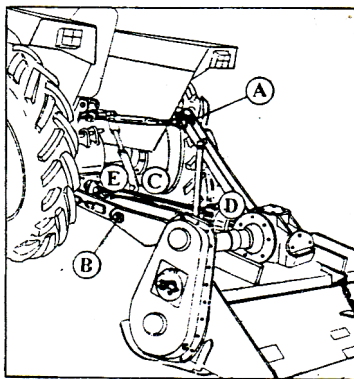

Figure 4. The process of aggregating small particles.
Fasten the upper tractor lever - topling to the support of the upper point on the rotary tiller (figure 4, item A).
3. Attach the left lower tractor lever (and also the stabilizer lever, if you use it) to the left sleeve of the rotary shredder and secure it in that position with the existing pins (figure 4, item B).
4. Attach the right lower tractor lever (and also the stabilizer lever, if you use it) to the right sleeve of the rotary shredder, and secure it in that position with the existing pins (figure 4, item C).
5. Attach the front end of the cardan shaft (the end of the shaft on which the friction clutch is located) to the input shaft of the rotary grinder and secure it in that position (Fig. 4, item D).
7. When you have attached the tool to the tractor in the previous way, you need to bring the axis of the reducer housing to a horizontal position, by extending or shortening the upper tractor lever (topling) as shown in Figure 4.
2. Sitting on the seat, detach the end of the upper tractor lever (topling figure 4, pos. A) from the tractor, moving the tractor slowly forward or backward, if necessary, for easier extraction of the axle.
3. Remove the front joint of the cardan shaft from the PTO shaft of the tractor (fig. 4, pos. E).
4. Disconnect the right lower tractor lever, where you can also use the lever for leveling on the tractor in order to facilitate the whole procedure of disconnecting this lever (figure 4, item D).
5. Disconnect the left lower tractor lever (figure 4, item B).